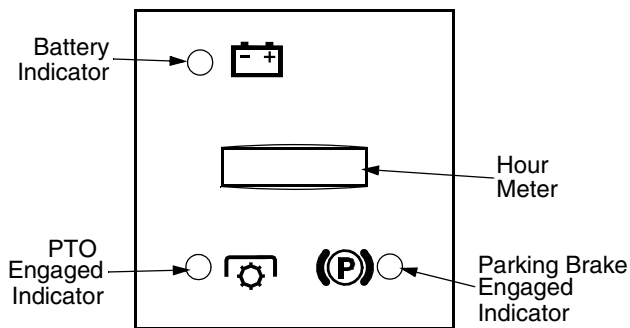

Figure 7
**Battery Indicator** (Refer to Figure 7)
**PTO Engaged Indicator** (Refer to Figure 7)
**Parking Brake Engaged Indicator** (Refer to Figure 7)